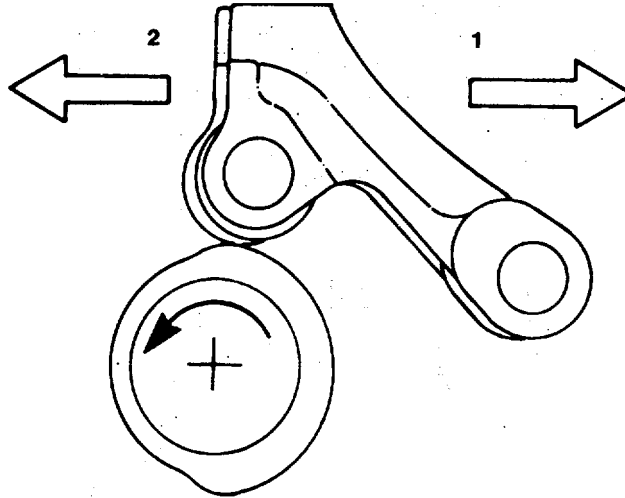

FIGURE 3-36. Timing Changes.
- (3) Injection Timing Changes. Injection timing changes are accomplished by advancing (1) or retarding (2) the cam follower action in relation to the piston position (FIGURE 3-36). This is accomplished by changing the orientation of the camshaft lobe to the cam follower using different cam follower gasket thicknesses or offset camshaft gear keys.